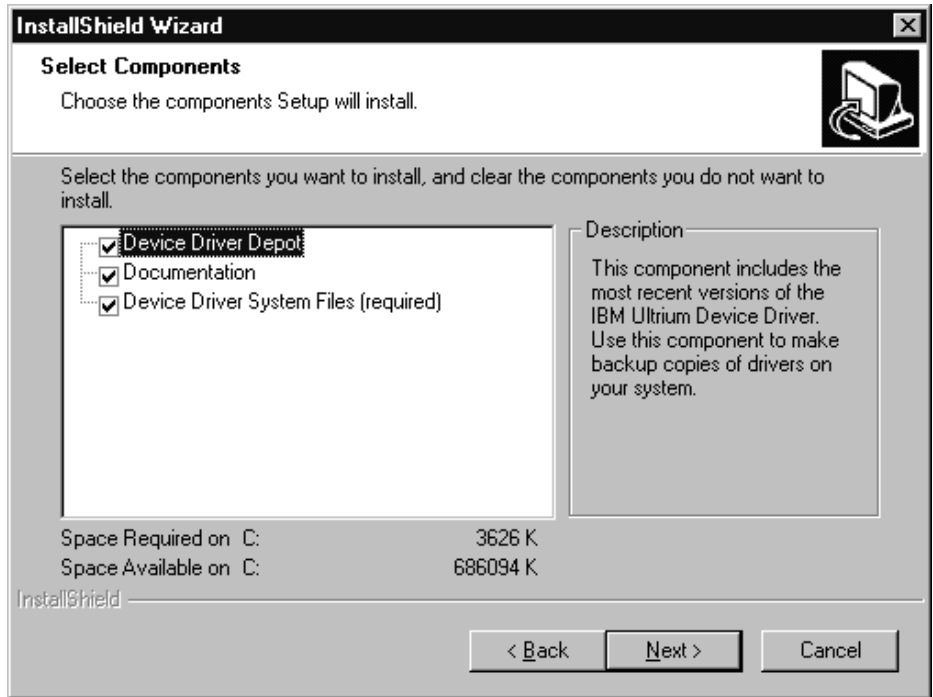

Figure 9. Select Components Menu
- c. If you select **custom** installation, the program will allow you to select the components to install (see Figure 9).